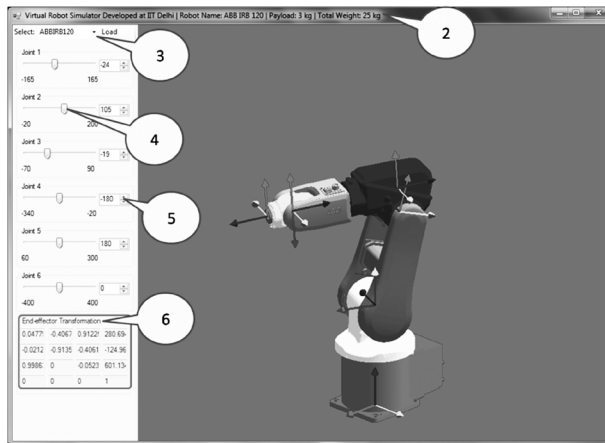

Fig. C.4 A robot in Virtual Robot Module
2. A new window/form is shown. By default CAD model of a robot is displayed, as shown in Fig. C.4.